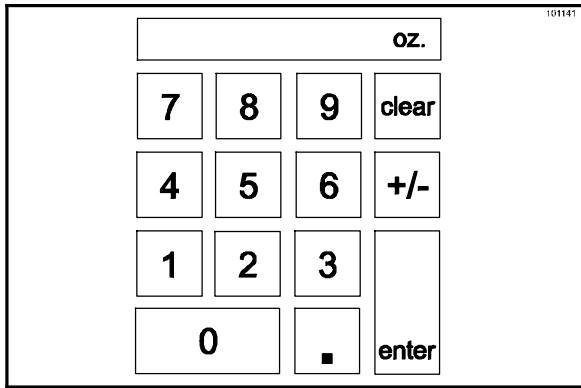

Figure 147
- If the level of product is not within range, remember the weight number and press the NEXT key. Enter the amount of product dispensed, including the decimal point, and press the ENTER key. (See Figure 147.)